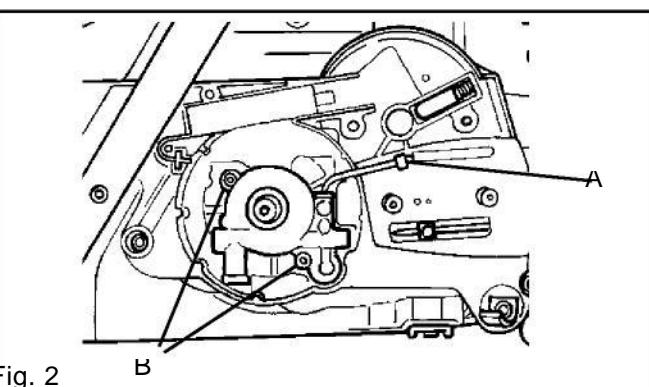

Fig. 2
4. Use a screwdriver and lift the oil pipe forward at A. Lift up the pipe and pull it out of the oil pump. See fig. 2.
5. Remove the two bolts (B) and lift the oil pump from the crankcase. See fig. 2.
6. Fit the oil pump into the crankcase. Tighten the bolts to 5 Nm. See fig. 2.
7. Locate the oil pipe and seals. See fig. 2.